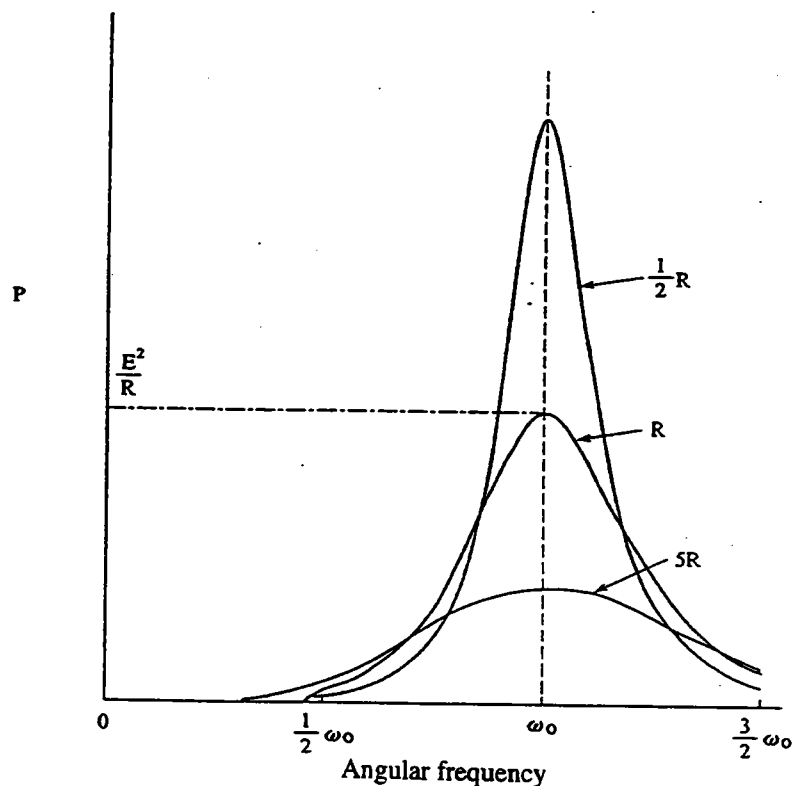

Fig. 3.1.2 Relation between power and frequency in series resonance circuit
The equation ③ is graphed in Fig.3.1.2, where L and C are assumed to be a constant, and R is a parameter. It is understood from Fig.3.1.2 that varying the frequency ω enables control of the power dissipated in the load R .